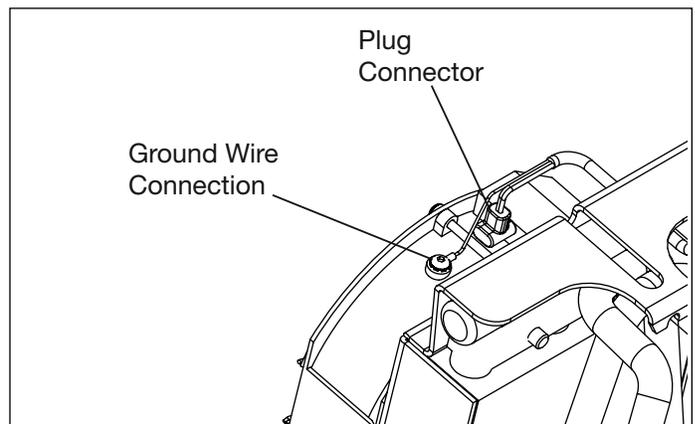

Figure 5, Fan Connections (typical)
- Reinstall the cover plate to the reservoir using only 11 of the 13 screws and gaskets. Torque to 50-60 inch lbs. [5.6-6.8 Nm]. Do not reinstall the two back corner screws at this time (item 128). They will be used later to mount the heat exchanger bracket to the cover plate.
- Check that the fan cable is plugged into the fan, and that the ground wire is connected to the fan housing. See Figure 5.